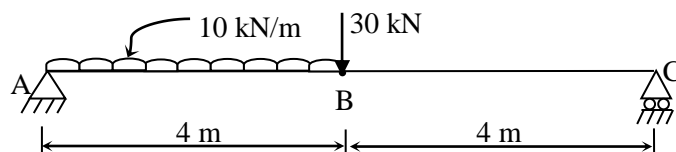

Fig. 1
- Q.2** (a) Find Slope at left hand support & Deflection at centre of the beam shown in Fig.1 by Macauli's method. Take $E=2 \times 10^5 \text{ N/mm}^2$ and $I=2 \times 10^8 \text{ mm}^4$. **07**